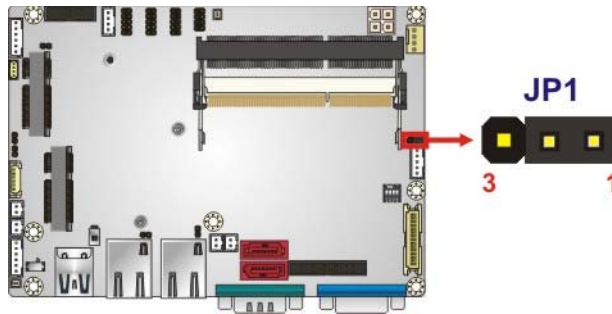

Figure 4-15: LVDS Voltage Selection Jumper Location
- Jumper Location:** See Figure 4-15